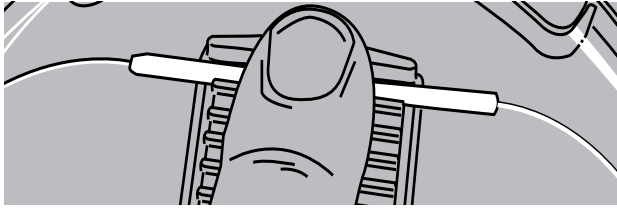

FIGURE 17
- Once cool, reposition the splice protector back into the splice block. Carefully store and route the fibre around the splice tray with minimum bending. (Figure 17)